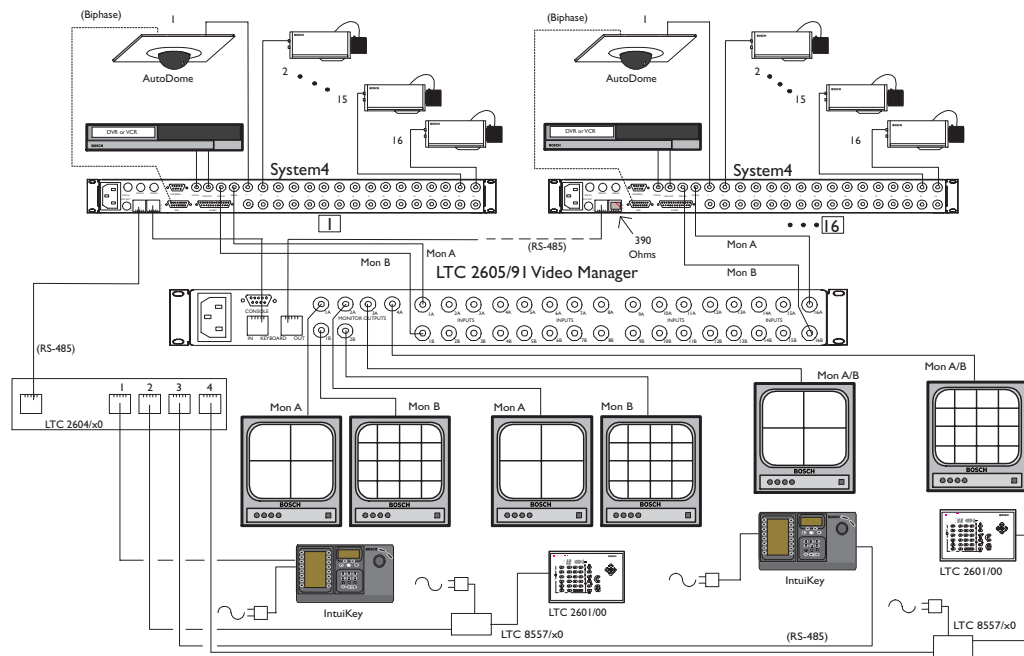

Figure 7 – Video Manager with System4 Multiplexers having 4 Control Locations Using Both IntuiKey Keyboards and LTC 2601/00 Keyboards
- Four Keyboard Configuration using LTC 2604 Keyboard Expander (Reference Figures 7 and 8 in Section 4: Installation Diagram): The video from Monitors A and B of the device controlled by the first keyboard is displayed on outputs 1A and 1B of the Video Manager, respectively.
Functional Notes for Figures 7 & 8: